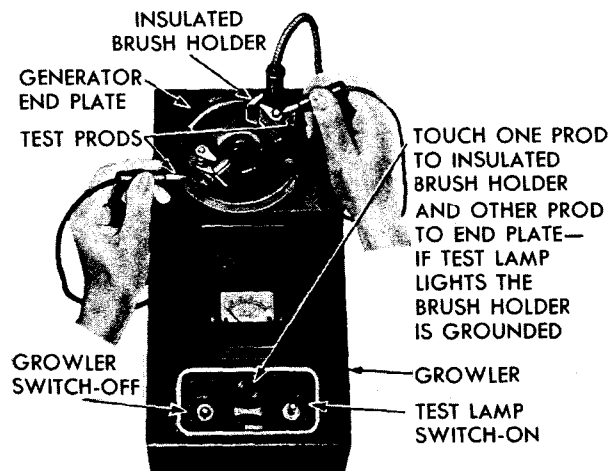

Fig. 15 — Testing Insulated Brush Holder
25. TESTING THE BRUSH HOLDER FOR GROUND (Fig. 15)
Use a 110 volt test light and test between the head and insulated brush holder, as shown in Figure 15. If the test lamp lights, the brush holders are grounded and the end head must be replaced.